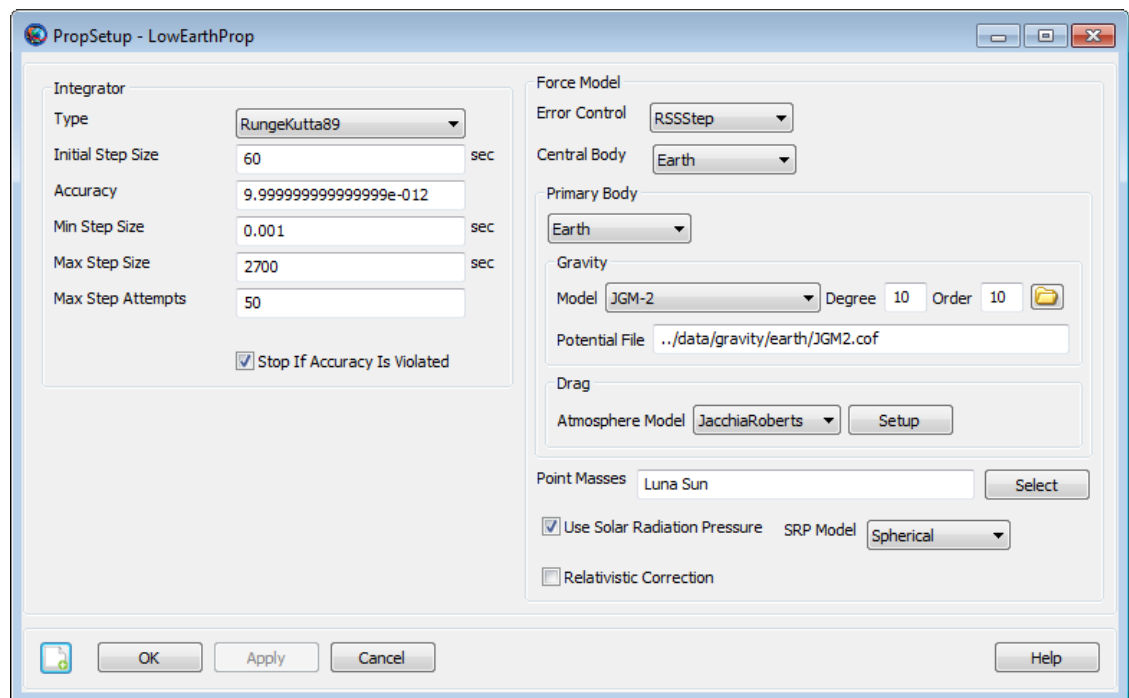

Figure 13. Force Model Configuration
9. Select **Use Solar Radiation Pressure** to toggle it on. Your screen should now match Figure 13.